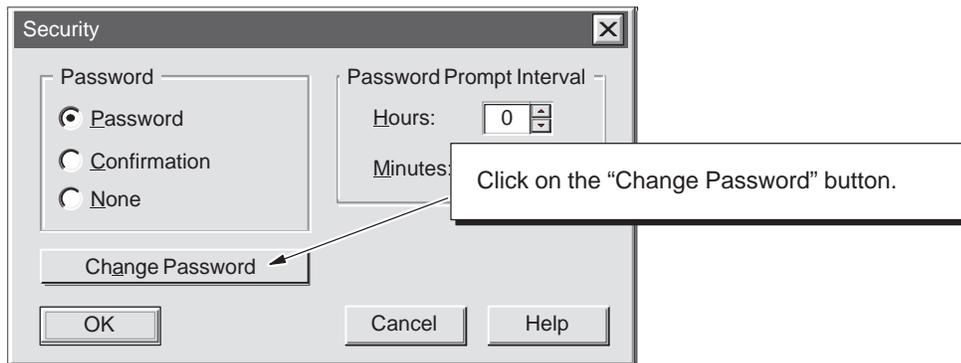

Figure 4-21 Accessing the “Change Password” Dialog Box
3. In the “Security” dialog box, click on the “Change Password” button. See Figure 4-21.